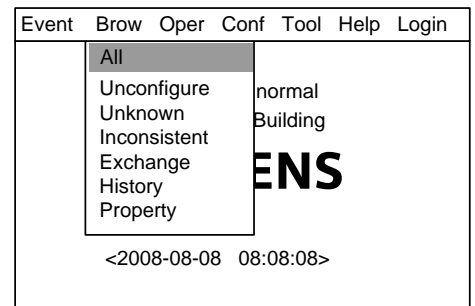
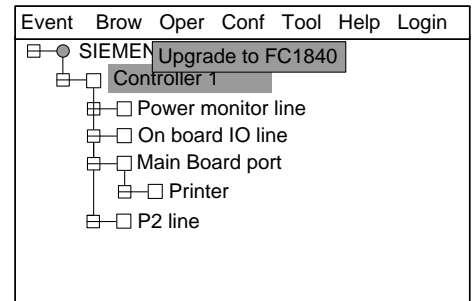

Fig.31-2
Fig.31-3
2. Press "→" to select "Brow" submenu (Fig. 31-2). Select "All" and then press "OK". Now the tree diagram will be displayed in the window (Fig.31-3). Use "↓" / "↑" to select the host machine.
3. Press "Menu" to browse the main menu then press "→" to select "Oper" submenu. Select "upgrade to FC1840" (Fig.31-3) then press "OK".